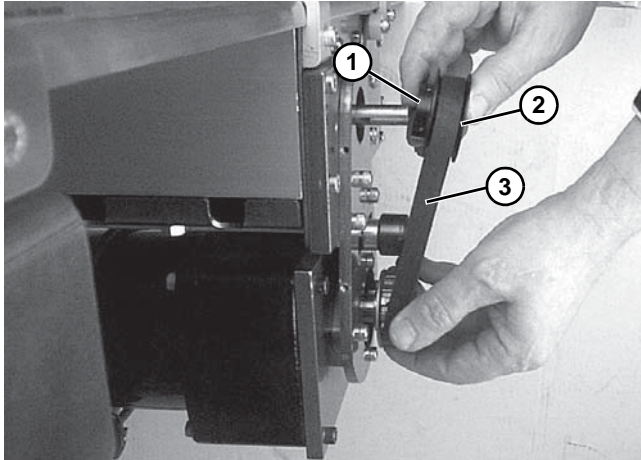

Figure 47
If the timing belt does not slide over the pulley flange, loosen the driven pulley set screws (Figure 47, item 1) and remove the pulley (Figure 47, item 2) with the belt (Figure 47, item 3).